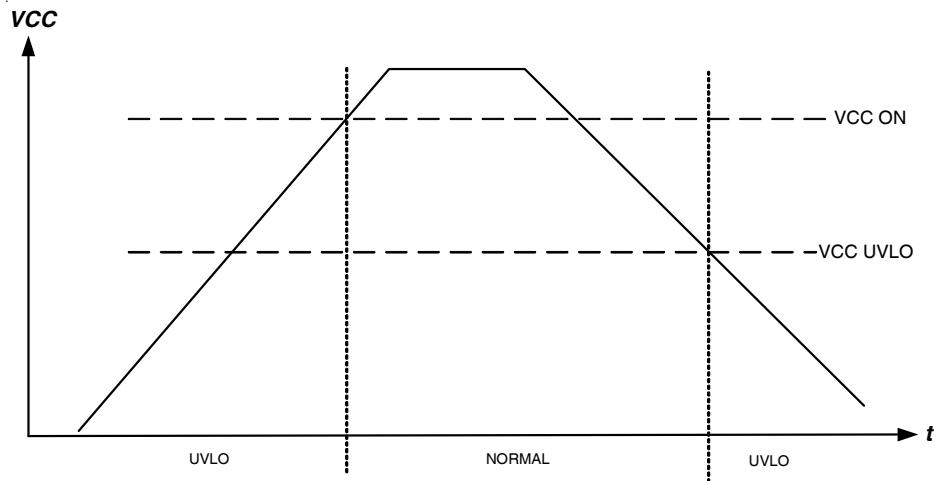

Fig. 14 -  $V_{CC}$  Under Voltage Lockout
**Fig 14.** Max  $V_{CC}$  Voltage vs. Synchronous Rectifier Switching Freq,  $T_J=125^\circ\text{C}$ ,  $T_{IC} = 85^\circ\text{C}$ , external  $R_G=6\Omega$ ,  $1\Omega$  HEXFET Gate Resistance included